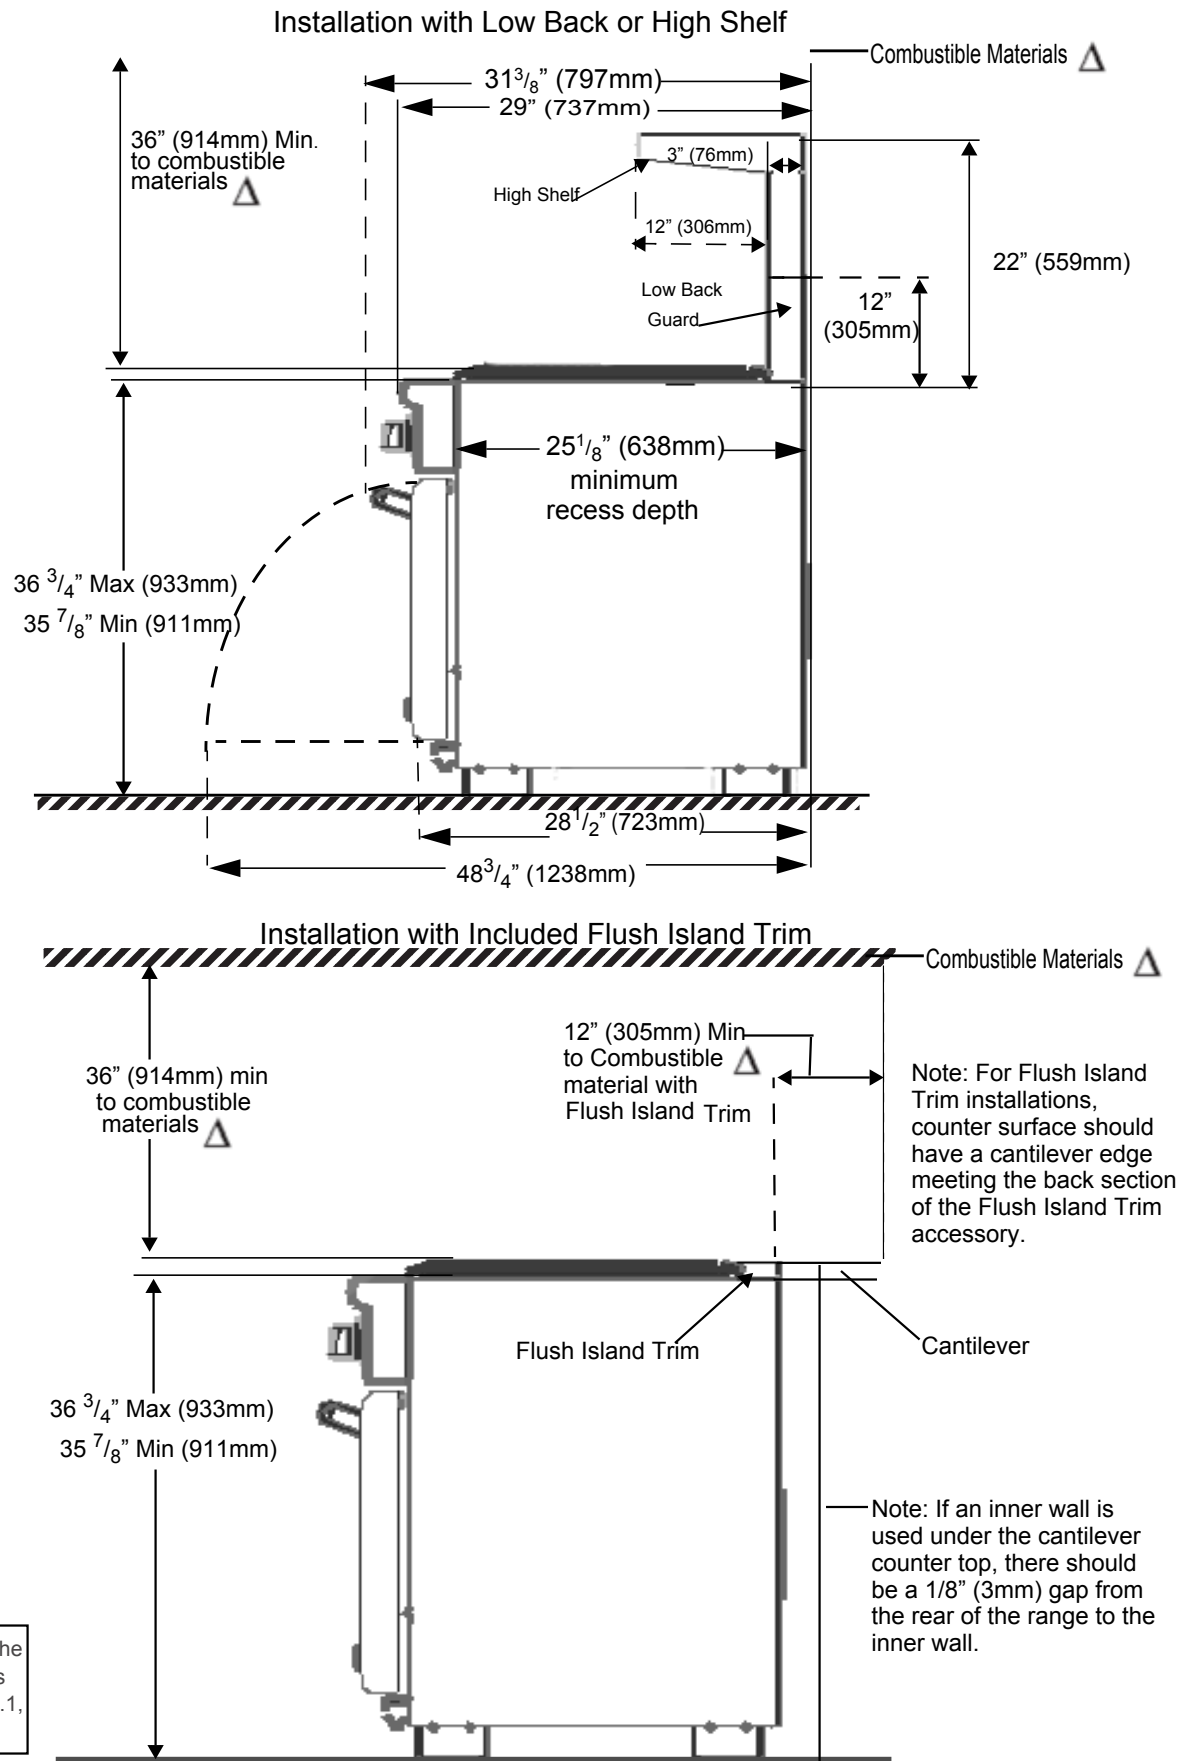

FIGURE 2: SIDE VIEW OF CLEARANCES
Flush Island Trim has been supplied with the range (refer to Figure 2 on page 6). A THERMADOR® Low Back or High Shelf must be purchased separately and utilized when there is less than a 12” (305mm) horizontal clearance.
- The range should not be recessed into the cabinets beyond the edge of the front face of the oven (see Figure 2 on page 6).
- When there is less than a 12" (305mm) horizontal clearance between combustible material Δ and the back edge of the range above the cooking surface, a THERMADOR® Low Back or High Shelf must be installed (see Figure 2). When clearance to combustible material is over 12" (305mm), the supplied THERMADOR® Flush Island Trim may be used. Figure 2 indicates the space required for each type of back-guard.